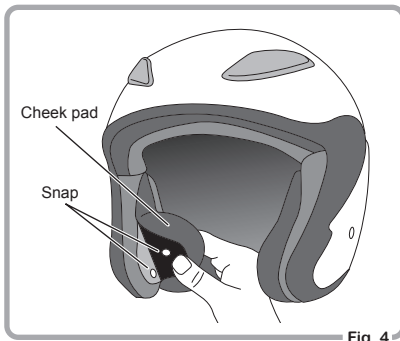

Fig. 4
- ③ Fasten the 2 snaps to complete attaching the pads. Follow the same steps on the other side as shown in Fig.4.